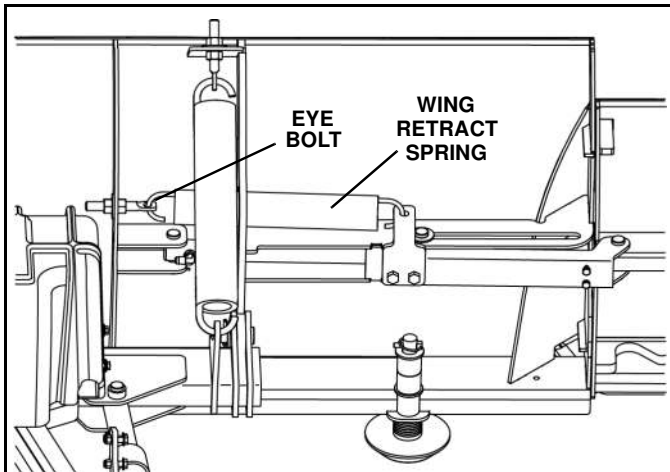

Figure 1-9
3. Install the retract spring to the wing bracket. Install the opposite end of the spring to the 5/8"-11 x 4-1/2" eye bolt on the blade frame. (See Figure 1-9)